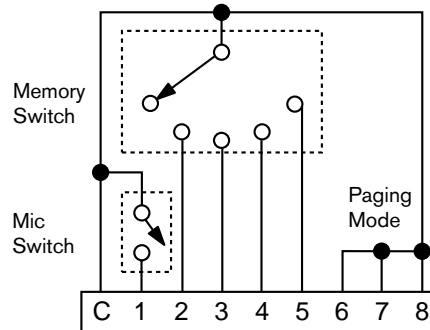

Figure 8. MRP Wiring
- ① **POWER input connector.** Use only an RS 1, or other Remote AC power supply approved by Rane. This unit is supplied with a remote power supply suitable for connection to this input jack. Consult the factory for a replacement or a substitute. This unit's power input is designed for an AC supply, delivering 18 volts, from a center-tapped transformer capable of supplying at least the 750 mA of current demanded by this product. Using any other type of supply may damage the unit and void the warranty.
- ② **Chassis ground point.** A #6-32 screw is supplied for chassis grounding purposes. Units with external power supplies such as this SRM 66 supply do not ground the chassis to earth through the line cord. This chassis connection is critical and in most installations, required by law. Many chassis ground this point to an amplifier chassis ground or directly to the grounding screw on a grounded AC outlet cover by means of a wire secured on both ends with star washers to guarantee proper contact. See the CHASSIS GROUNDING note below.
- ③ **FP LOCK button.** When pressed *in*, locks out all front panel control except for Group Levels and Memory Recall. The SR 1L remotes (sold separately) are also able to control Group Levels with FP LOCK engaged. The user is able to view, but not edit, all Edit pages.
- ④ **MEMORY RECALL PORT (MRP).** This Port allows any remote switch to recall any of the system Memories. The first eight Memories recall with simple switch closure to a single pin. A "binary" wiring mode allows access to more complex Memory recall functions. See Figure 8 on page Manual-6. Complete programmability of the MRP is possible using the *Edit MRP Configuration* feature found in SRM Exchange software. See *DSC 1 & SRM Exchange software* on page Manual-7.
"Paging" mode provides installers an easy way to configure a system which uses a single switch (such as a push-to-talk mic switch) to toggle between two sequential Memories to change source levels. See Figure 8 and Table 1.